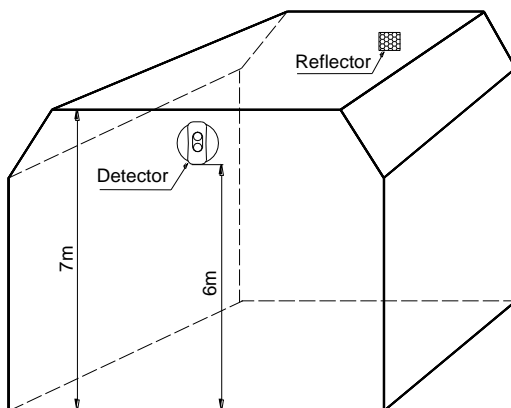

Fig. 4
- (2) When space height is between 5m and 8m, the detector and reflector should be mounted on the two facing walls 0.5m to 1m from the ceiling, as shown in Fig. 4.